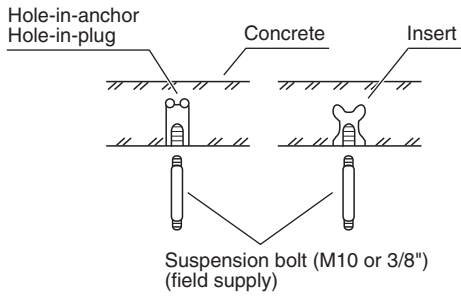

Fig. 3-37
- Insert suspension bolts (Fig. 3-37) or
- (2) Screw in the suspension bolts allowing them to protrude from the ceiling (Fig. 3-37). (Cut the ceiling material, if necessary.)